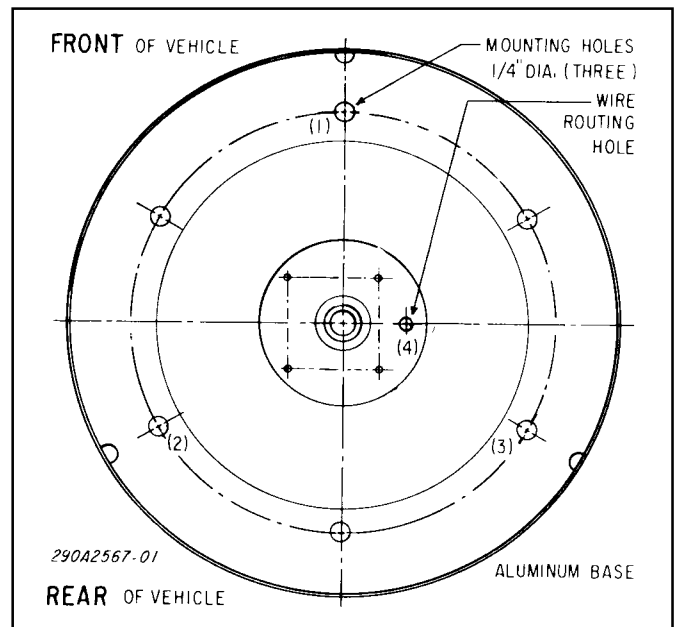

Figure 1.
3. Use the base of the light as a template and scribe four drill position marks on the mounting surface as shown in figure 1.